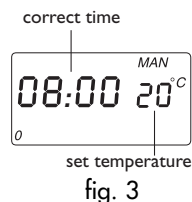

fig. 3
Once the power has been selected, press the "⬆" (5) or "⬇" (6) button to select the desired comfort temperature from 5°C to 35°C (shown on the right side of the display, fig. 3). This will increase or decrease by 1°C. Keep either button pressed down to move through the temperature in fast move.